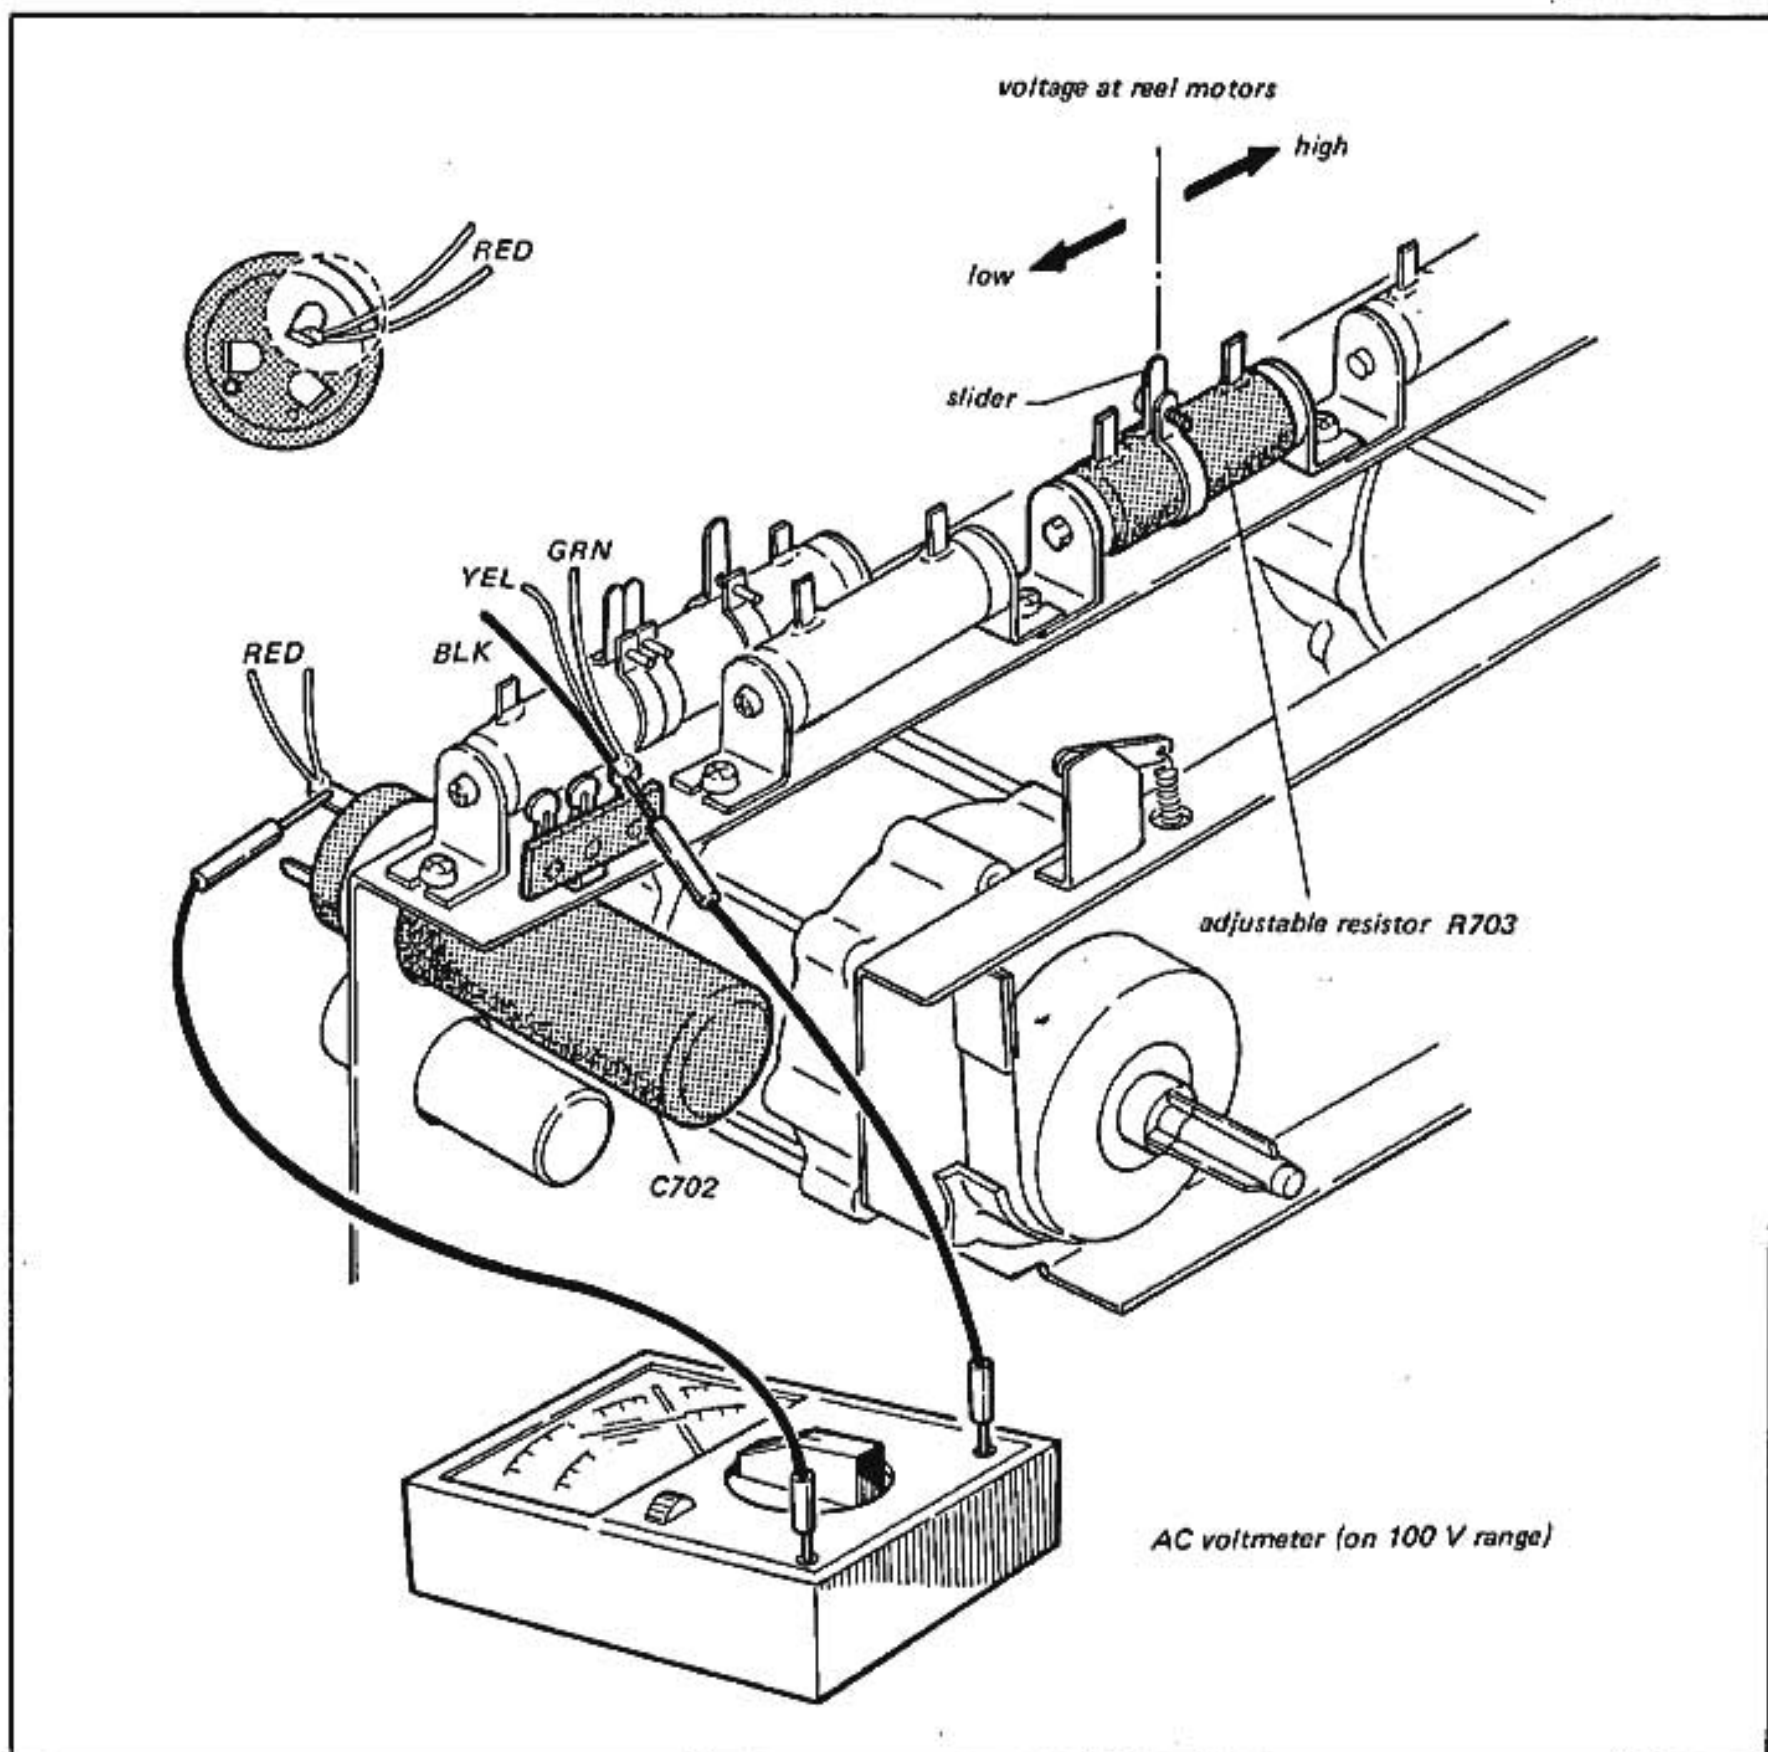

Fig. 6-3 Voltage adjustment for the reel motor
6-2. Reel Motor Voltage Adjustment in FAST FORWARD (See Fig. 6-3)
- 1) Connect an AC voltmeter on 100 V range as in Fig. 6-3.